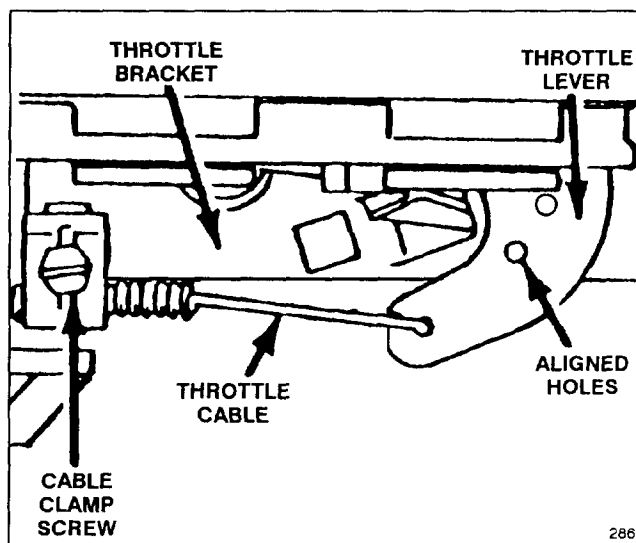

Figure 22
3. Loosen cable clamp screw until throttle cable slides (Fig. 22).
4. Move throttle cable left or right until holes in throttle lever and throttle bracket align (Fig. 22).